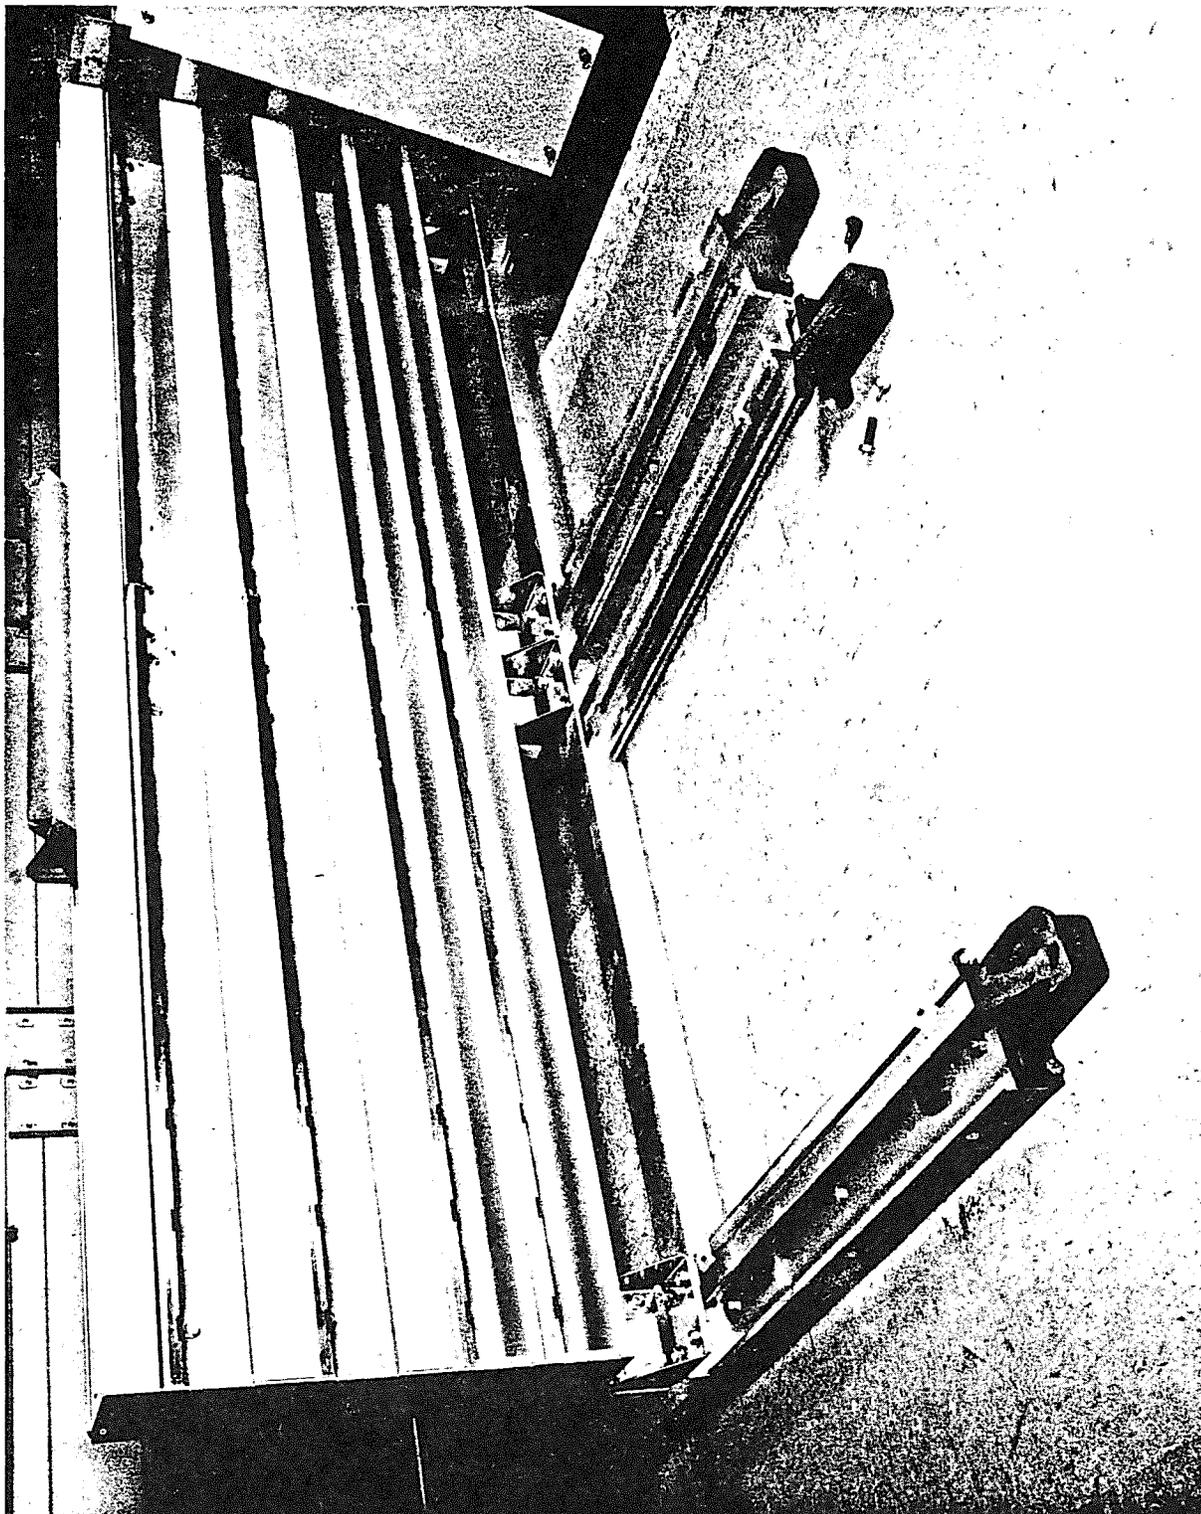

FIGURE 4
- 4.6 Continue with assembly of the right and left ramp moldings to the floor rails and the horizontal cable ducts to the floor rail rear bracket. Use Figure 4 and ED-1E398-70 as a guide. Additionally, read Section 101, paragraph 4.6 since the horizontal cable duct is a part of the ductwork ground system.